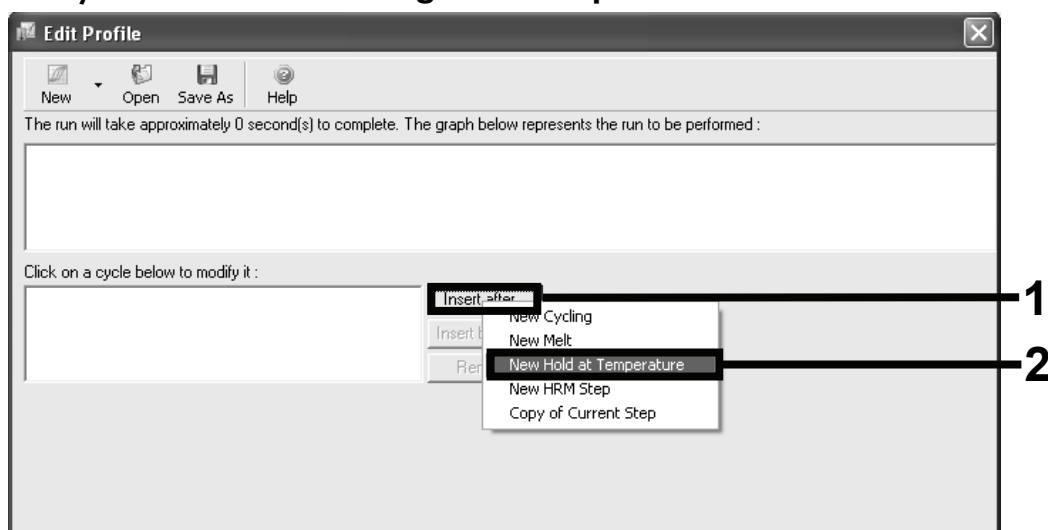

Figure 4. Initial incubation step at 95°C.
Initial activation of the hot-start enzyme	Figures 4, 5
13. Click the “Insert after” button and select “New Hold at Temperature” (Figure 4). Click “60” to change the temperature to 95°C.